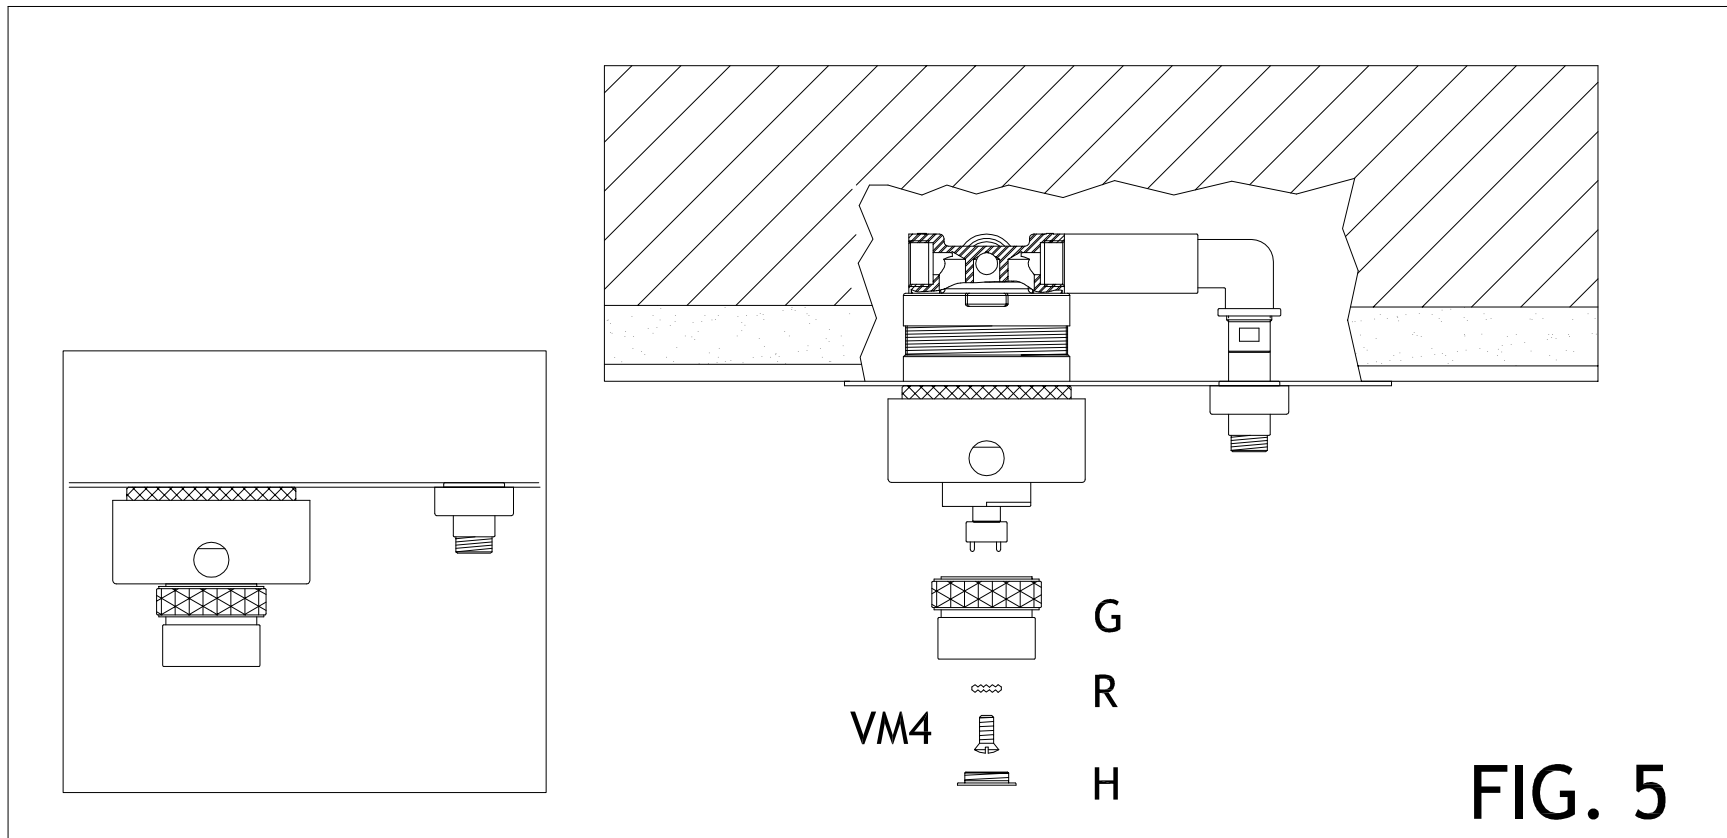

FIG. 5
(FIG 5)
To change temperature stop point, remove knob (G) (FIG 5), loosen 3 allen screws (FIG 4a) and change position of cam (F) (FIG 4). Rotate towards left for warmer water and towards right for colder water.